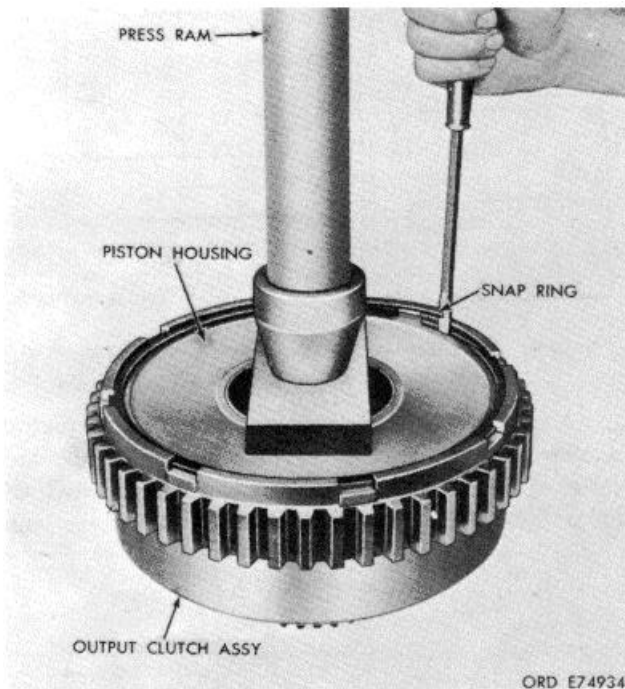

Figure 7-35. Removing (or installing) output clutch piston housing snapping.
a. Position the output clutch assembly in a press and apply sufficient force against the piston housing to relieve pressure on the snapping. Remove the snapping (fig. 7-35).
p. Position the clutch assembly in a press. Apply sufficient pressure to push the piston housing into the clutch housing so that the snapping can be installed. Install the snapping (fig. 7-35).